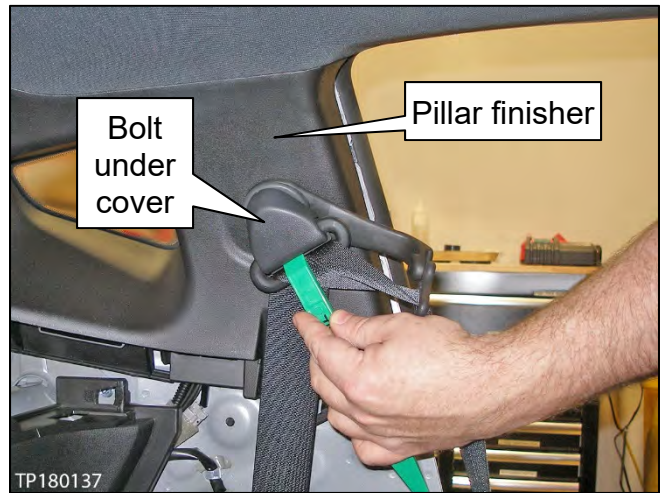

Figure 34
- a. Remove the seat belt shoulder anchor mounting bolt covers, and then remove the bolts (see Figure 34 and 35).